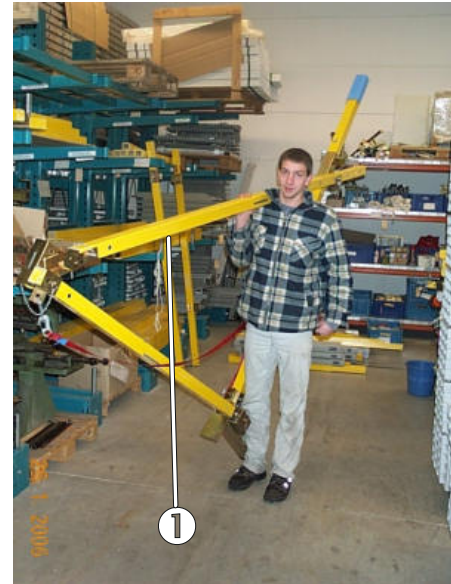

Fig. 12: Transporting the triangular structural part
After the triangular structural part has been assembled, the rest of the erection takes place at the lift shaft. The triangles can be lifted by the diagonal sides, with the diagonal sides horizontally aligned when the triangles are lifted (fig. 12/ pos. 1), and then transported to the threshold in question. Personal safety equipment absolutely must be used for any further work that takes place at the lift shaft.